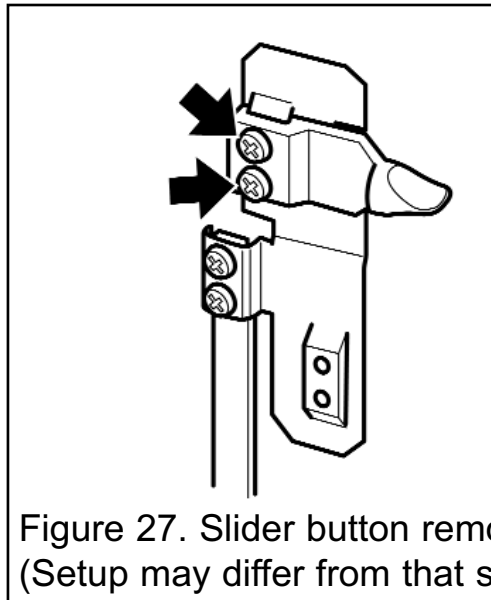

Figure 27. Slider button removal (Setup may differ from that shown)
3. Detach the control slide button from the extension bracket by removing two screws (See figure 27).